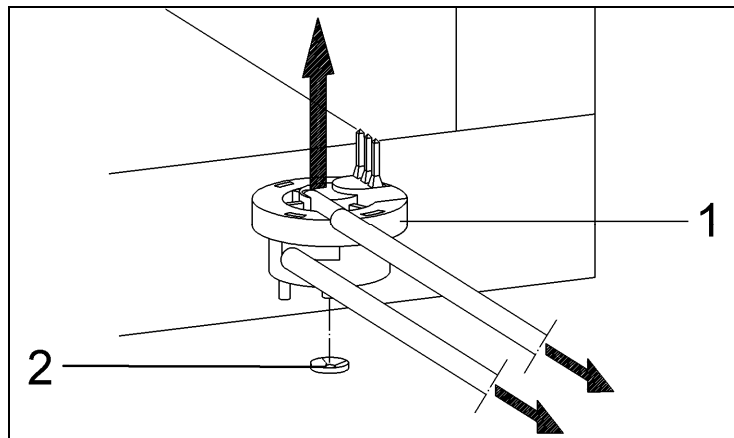

Figure 5-31: Flow Meter and Safety Ring
10. Pull the flow meter (Figure 5-31, Item 1) upward out of the safety ring (Figure 5-31, Item 2) and remove it.